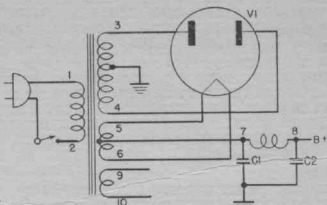

Figure 4.10 - Power Supply Section
**4.10 POWER SUPPLY SECTION - Figure 4.10**